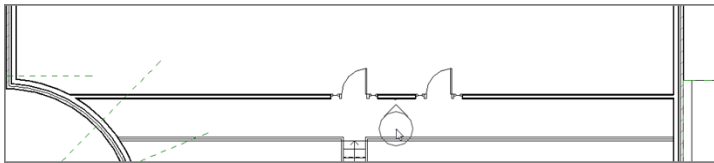

FIGURE 10.77: Pick the point as shown for the elevation.
4. Place it in the corridor wall aligned with the stairs, as shown in Figure 10.77.
5. Copy the door 10'-0" (3000mm) to the right (see Figure 10.77).